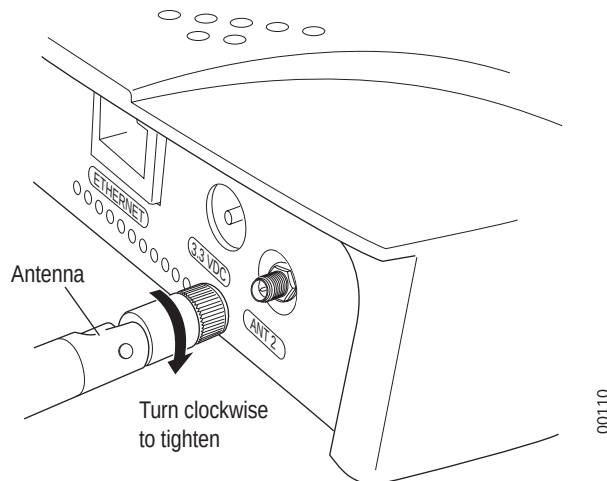

Figure 13: AP200 Antenna Connection
If the AP200 does not have external antennas, attach the antennas to the connectors on the AP200 (see Figure 13). Rotate the knurled ring at the base of the antenna clockwise to attach the antenna. The ring should be finger-tight.
2. For each antenna, loosen the knurled ring at the base of the antenna (see **Figure 13**), point the antenna straight up, then retighten the ring.
8. For external antennas, loosen the knurled ring at the base of each antenna (see Figure 13), point the antenna straight up, then retighten the ring.
9. For each antenna, loosen the knurled ring at the base of the antenna (see Figure 13), point the antenna straight down, then retighten the ring.
11. For each antenna, loosen the knurled ring at the base of the antenna (see Figure 13), point the antenna down, then retighten the ring.